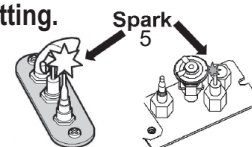

Fig 3
2. **SET ON/OFF SWITCH (1) TO "OFF" POSITION.**
- Wait five (5) minutes to clear out any gas, then smell for gas, including near the floor. If you smell gas, **STOP!** Follow "B" in the safety information above on this label. If you don't smell gas, go to the next step.
3. **AUTOMATIC IGNITION (fig. 1):** Locate the pilot (fig 3.) inside of firebox.
- ON/OFF switch (1) in ON position, MAN-knob (2) in ON position; set Flame Adjustment knob (3) to lowest setting (0)
- When the pilot is lit, the Flame Adjustment knob (3) will automatically rotate to the highest setting.
4. **MANUAL IGNITION (fig. 2):** With the window off, locate pilot (fig. 3) inside firebox;
- ON/OFF switch (1) in ON position, MAN-knob (2) in MAN position;
- Set Flame Adjustment knob (3) to the lowest setting (0);
- Push down the metallic core (4) with a pen or similar instrument; this will establish the pilot gas flow;
- Light gas at the pilot (5) with a match;
- Continue holding down metal core (4) for about 10 seconds; after release, pilot should remain lit;
- If the pilot will not stay lit after several tries, turn the gas control knob (3) to "OFF" (0) and call your local service technician or gas supplier.
- Reinstall the window and set the MAN-knob (2) to "ON"; turn Flame Adjustment knob (3) up (5) or down manually or use the up/down 'flame' buttons on the remote control handset to adjust the flame height.